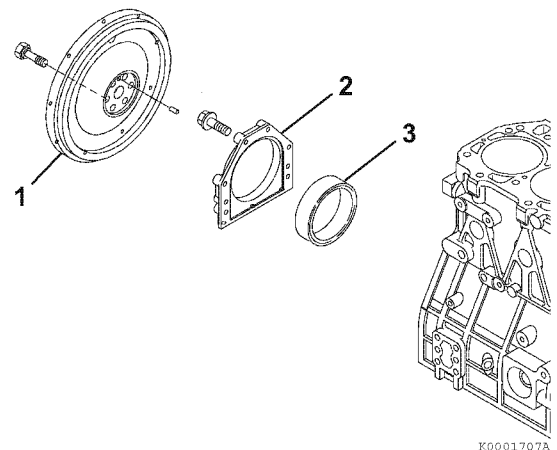

Figure 6-63
3. Remove the rear oil seal (3, **Figure 6-63**) from the seal housing (2, **Figure 6-63**).
4. Apply a continuous bead of ThreeBond Liquid Gasket No. 1207F, YANMAR Part No. 977770-1207F to the outside diameter of a new oil seal (2, **Figure 6-63**), and install in the housing. Apply lithium grease to the lip of the seal.